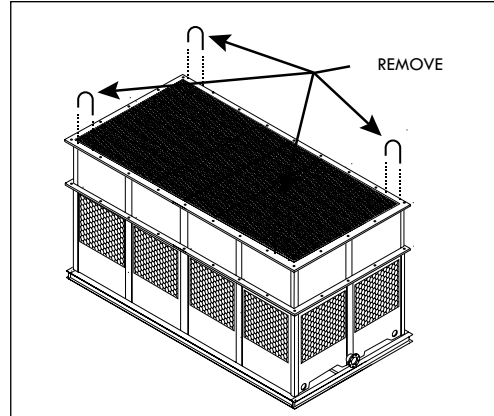

Figure A-19: Removing U-bolts from Lower Body section for a Two Fan Tower (RT-D or RTP-D)
- K. After the Lower Body section has been set in place, remove the U-bolts located on the flange before installing the Upper Body section (see Figure A-19).